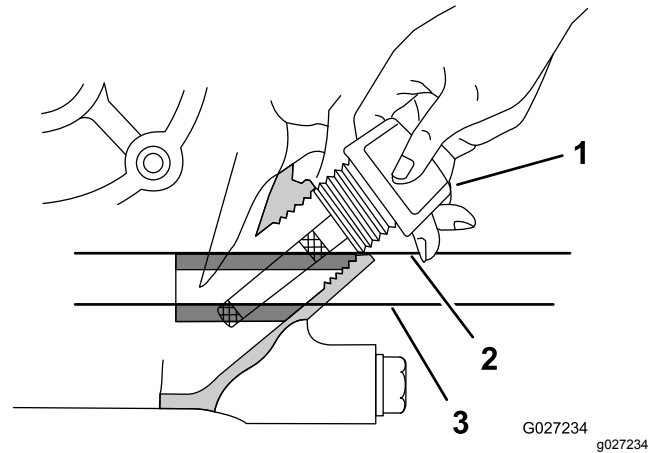

Figure 11
3. Insert the dipstick from the engine as shown in Figure 11.